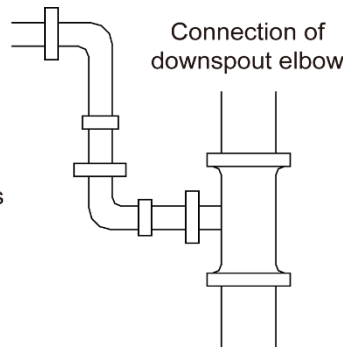

Fig15
- ii Connection of downspout elbow (Fig15)